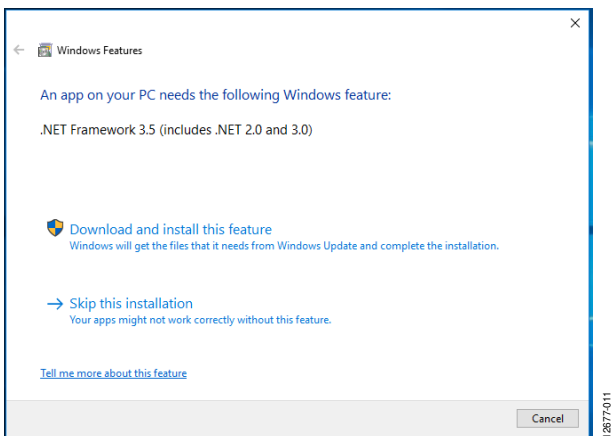

Figure 11. Windows 8/Windows 10 .NET Framework 3.5 Installation
- When the Eval+ Dependencies installer reaches the .NET Framework 3.5 installation step, a window appears, as shown in Figure 11.
- If the window shown in Figure 11 does not appear, the .NET Framework 3.5 may already be installed on the PC. To confirm that the software is installed, open the **Control Panel > Programs > Programs and Features**, and then select **Turn Windows features on or off**. In the pop-up window, find .NET Framework 3.5 and confirm that the software is enabled.